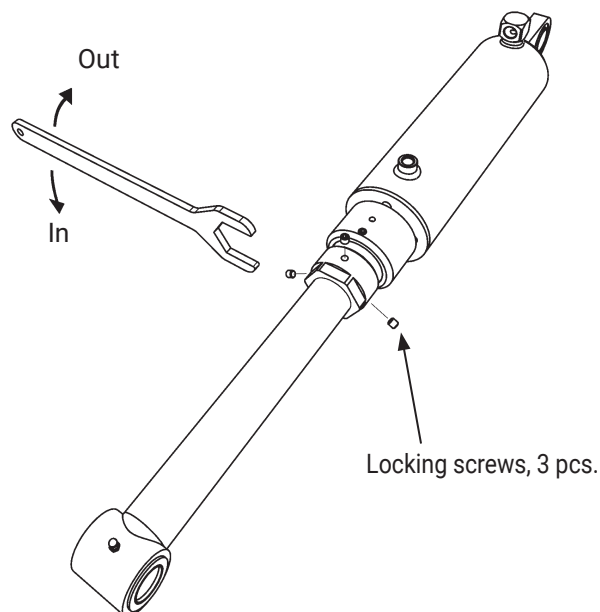

Figure 47. Adjusting the tilt angle
6. Undo the three locking screws on the other tilt cylinder. Figure 47.
7. Turn the adjuster sleeve until the tilt cylinder aligns with the platform attachment point. See Figure 47.